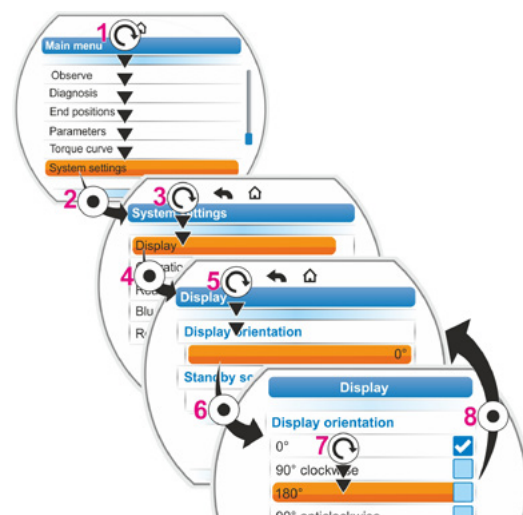

Fig. 2: Change display orientation
1. Select 'System settings' in the main menu (fig. 2, item 1) and confirm (fig. 2, item 2). The 'System settings' menu appears.
2. Set selection marker to 'Display' (3) and confirm (4). The currently set number of degrees by which the display is shifted is shown in the 'Display' menu.
3. Set selection marker to number of degrees (5) and confirm (6). The display changes to 'Display orientation'. The current setting is ticked ☒.
4. Set selection marker to desired setting (7) and confirm (8). The indication in the display is adapted accordingly.